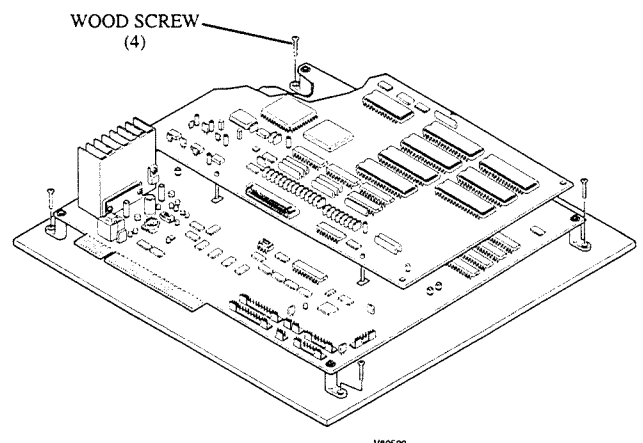

Figure 7: PC Board Mounting
23. Secure the PC boards to a cabinet shelf or the cabinet sidewall with wood screws, as shown in Figure 7.